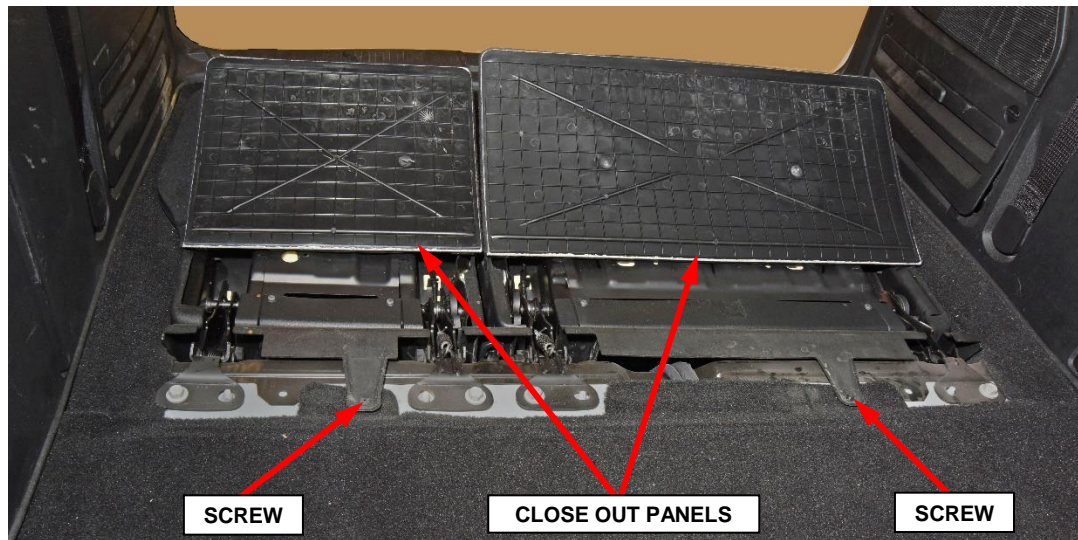

Figure 13 – Carpet Screws
48. Flip open the closeout panels then remove the two screws on the 3rd row seat trim holding carpet down (Figure 13).